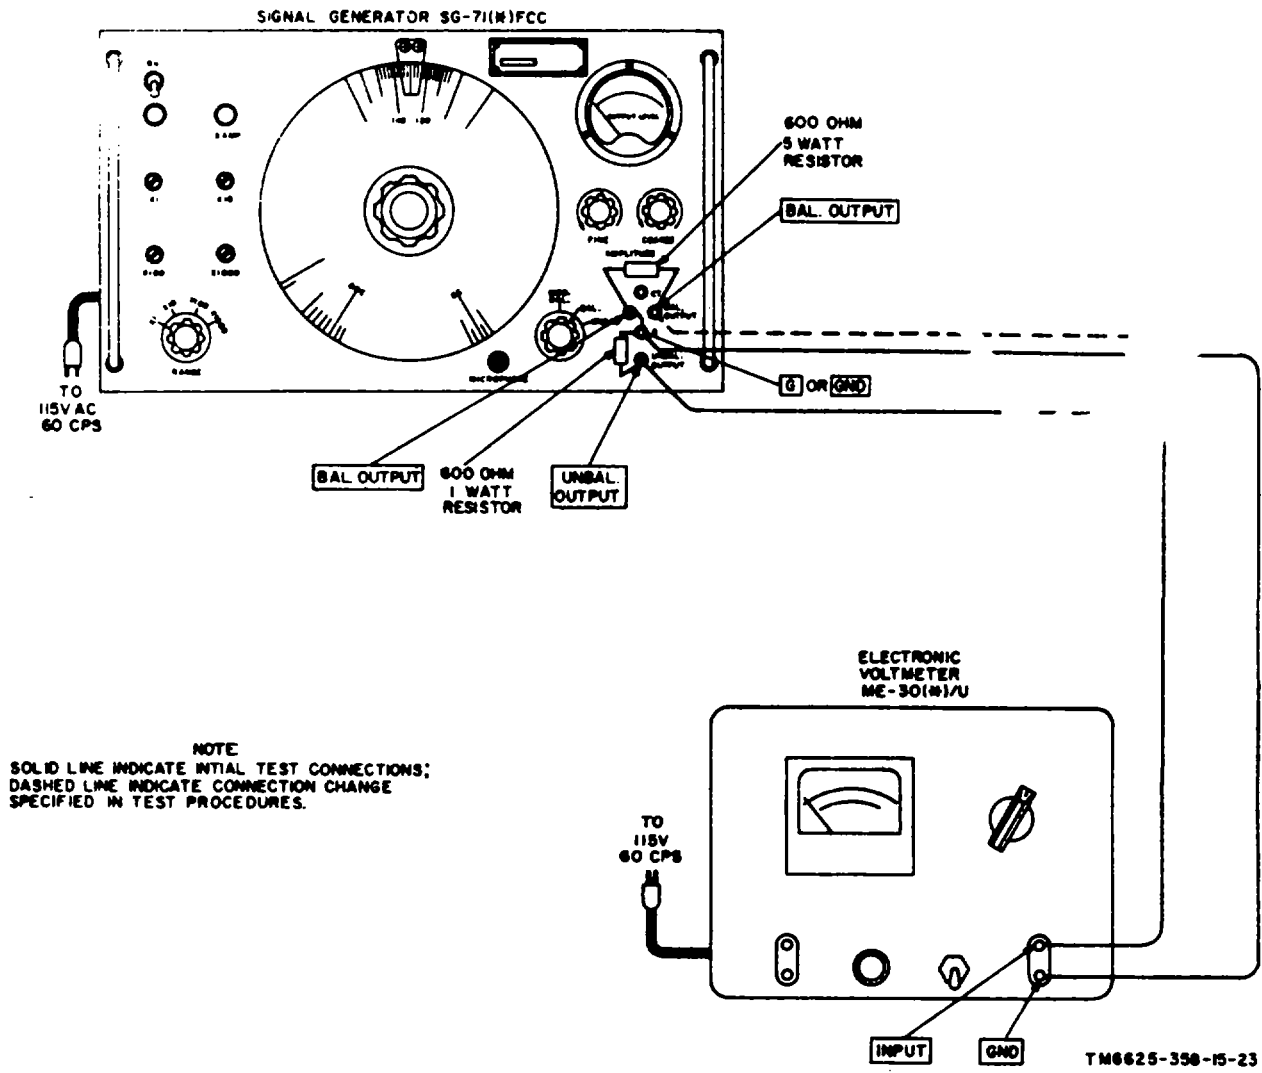

Figure 8-3. Hum measurement, output level meter calibration, frequency response, and power output, test setup.
- (1) Connect the equipment as shown in figure 8-3.
- (2) Allow the equipment to warm up for at least 20 minutes before the test procedure is started.